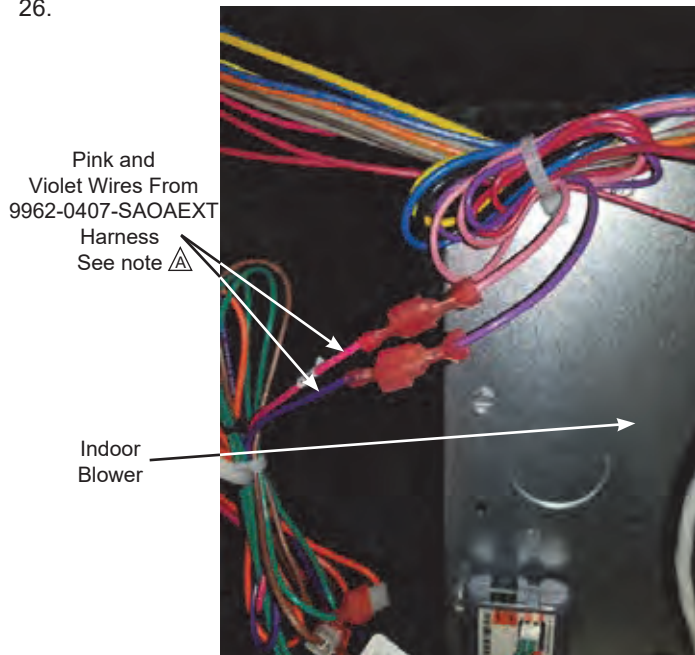

Figure 24 – Connect Pink and Violet Wires in Indoor Blower Section
Step 34: Connect the pink and violet wires from the 4-wire 9962-0407-SAOAEXT harness to the pink and violet terminals in the wire bundle in the indoor blower section. See Figures 24 and 26.